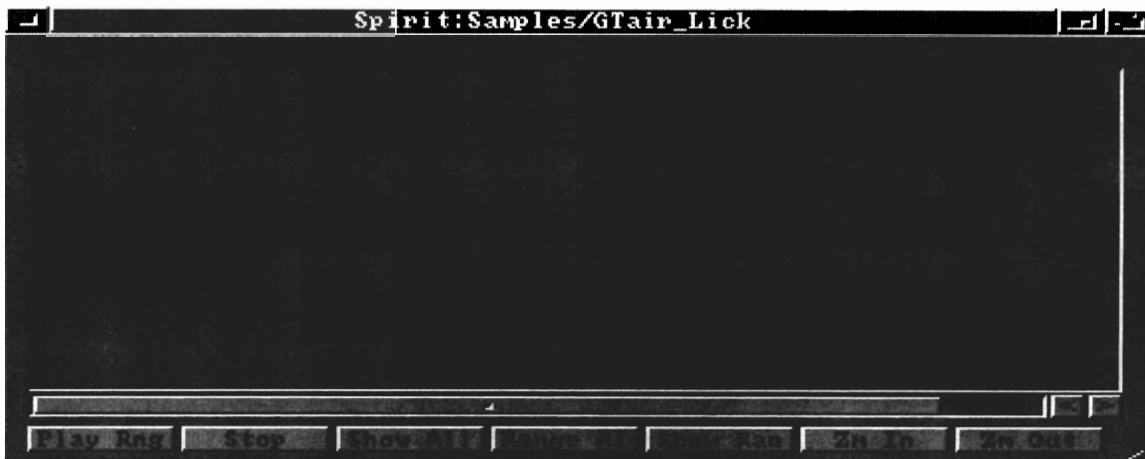

Figure 3-5. Edit Window
4. An Edit window will appear with your sample(s) graphed. Figure 3-5.
2. Select **Play Range** from the Editor Menu (*A-L*) to hear the marked range. Figure 3-5.